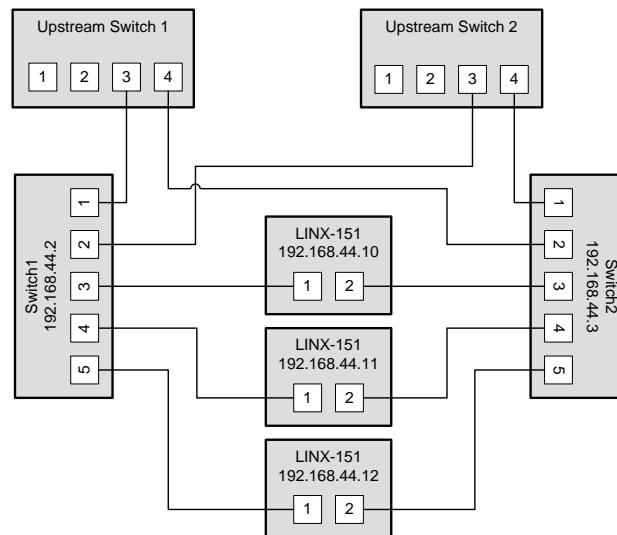

Figure 150: Fully redundant Ethernet topology
**Fully redundant topology:** Both Ethernet ports are connected to a different upstream switch. Thus, a single cable or upstream switch problem can be tolerated. This topology requires RSTP. In Figure 150, the L-IP with IP addresses 192.168.44.10 to 192.168.44.12 are connected in this way. This connection scheme increases switch and cabling costs, but increases network resilience. Note that the upstream network is connected via the lowest-numbered ports. If this is not possible, the ports need to be configured to the lowest STP port priority value (which is the highest priority).
**Redundant upstream connection:** Switch1 and Switch2 are both connected to the upstream network, either to two ports on the same switch or to two redundant upstream switches. In this case, RSTP is needed to ensure a loop-free topology between the upstream switches, Switch1 and Switch2, so the RSTP domain includes the upstream network and the chained L-IP devices. The configuration of Switch1 and Switch2 need to ensure that they are not selected as the root bridge. If possible device communication should be bound to a separate VLAN and MSTP (Multiple Spanning Tree Protocol) should be employed to isolate the spanning tree operations. This topology is shown in Figure 150.
The following example shows the configuration commands for Switch1, Switch2 and the upstream switch (HP Procurve syntax) in the setup shown in Figure 150.